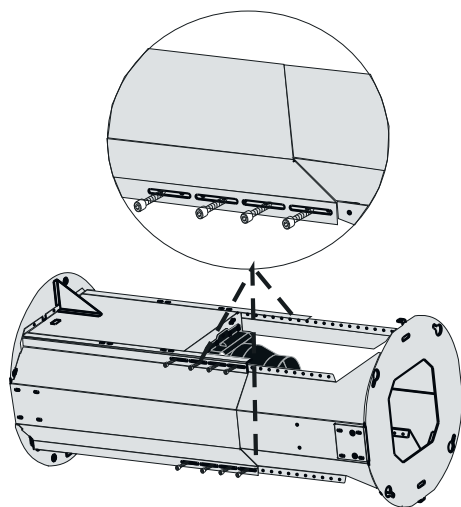

Fig. 13
- 2.** ➔ To adjust the distance; remove the screws shown in (Fig. 13) and pull the motor block composed of two blocks in or out to adjust it to the correct measurement. Reinstall the screws you took out into suitable holes.